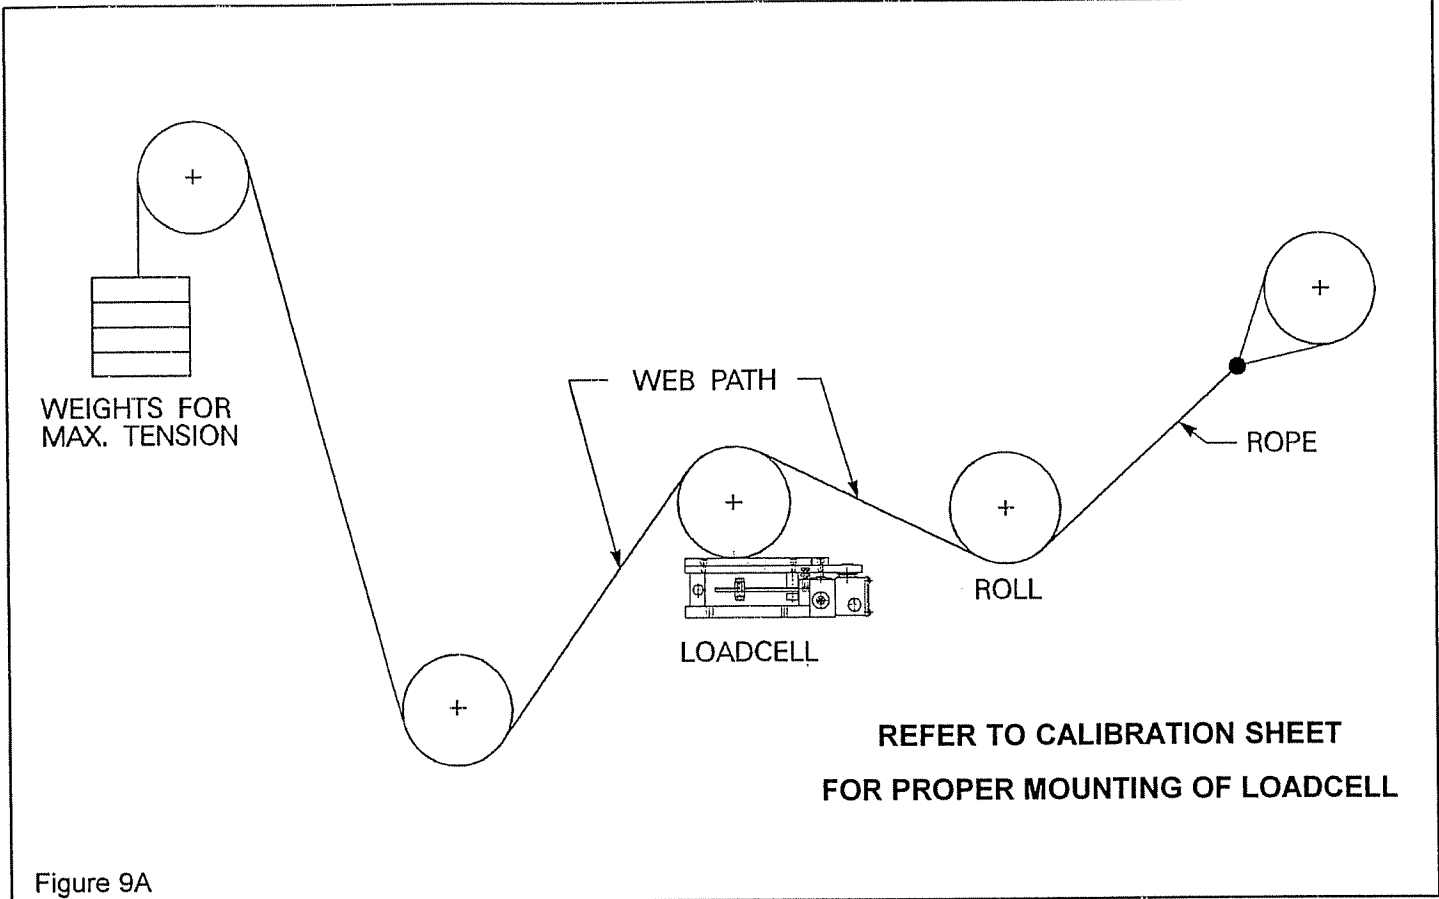

Figure 9A
2. With one end of the rope secured, hang a known weight, equal to the maximum strip tension specified on the calibration sheet, at the other end. (See Figure 9A.)